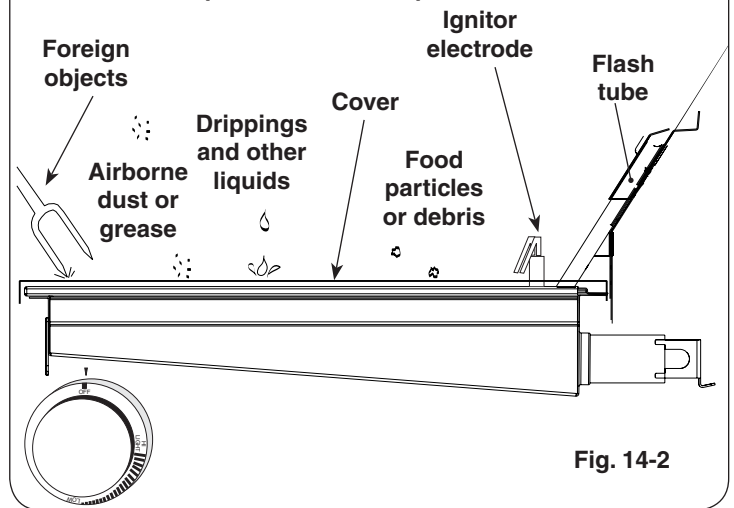

Fig. 14-2
- When not in use, **always** cover the infrared burner with the stainless-steel cover. This protects the burner from drippings (from other cooking), airborne particles, and foreign objects (Fig. 14-2).
- Do not strike or scratch the burner ceramic as it may chip, crack, or break (Fig. 14-2).